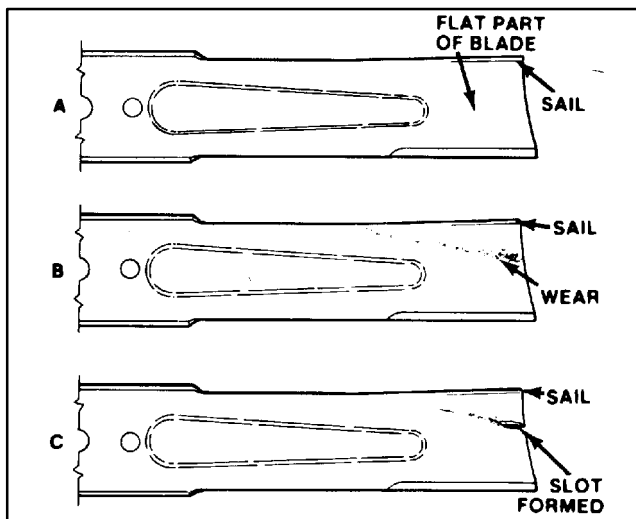

Figure 36
(Fig. 36–37)
2. Examine cutting ends of the blade carefully, especially where the flat and curved parts of the blade meet (Fig. 36–A). Since sand and abrasive material can wear away the metal that connects the flat and curved parts of the blade, check the blade before using the machine. If wear is noticed (Fig. 36–B), replace the blade: refer to Removing Cutter Blade.